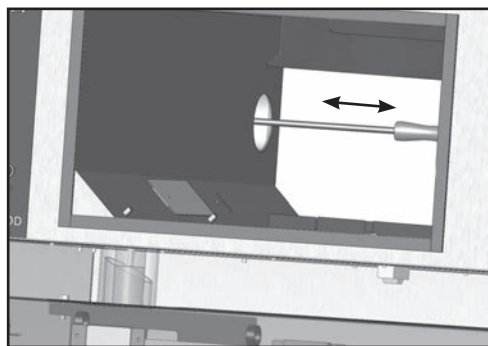

Figure 3
3. Repeat with the exhaust tube opening located inside the hood cavity Figure 3.